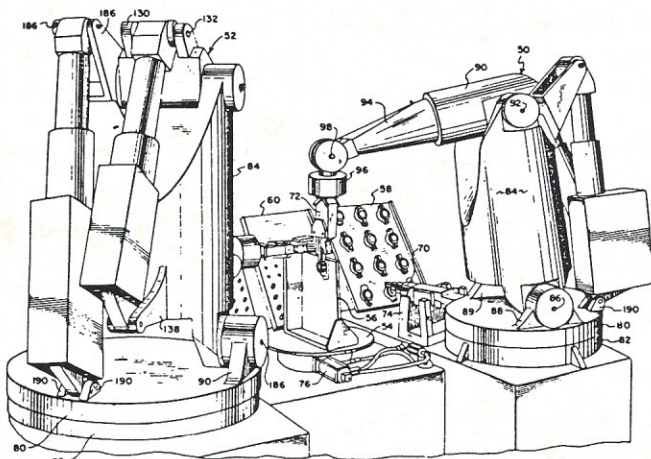

Figure 1. The front page of a patent names the inventors and assignees, presents an abstract of the patent, and provides a drawing of the invention.
**Patent Contents.** A patent's primary purpose is to protect inventors' rights to ideas and make technical information available to others. The front page of recent U.S. patents contain other valuable information. A typical front page is shown in figure 1. A patent's front page can tell you: